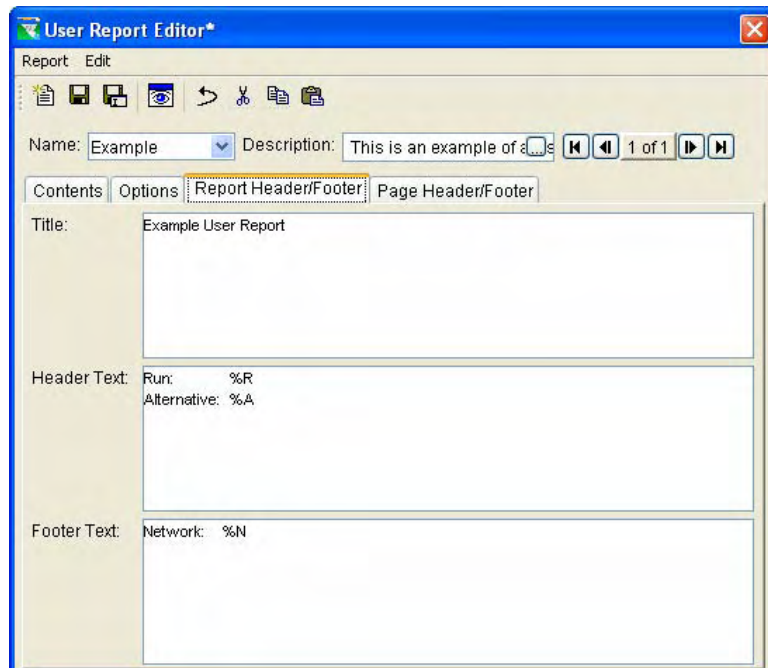

Figure 14.46 User Report Editor – Report Header/Footer Tab
6. Select the **Report Header/Footer** tab in the **User Report Editor** in order to give your report a title, header, and footer, if desired (Figure 14.46).
The **Title** and **Header Text** will appear at the beginning of the report, while the **Footer Text** will appear at the end. Notice the character string codes (%) entered in Figure 14.46. These **codes** refer to run name (**%R**), alternative name (**%A**), and network name (**%N**), respectively.